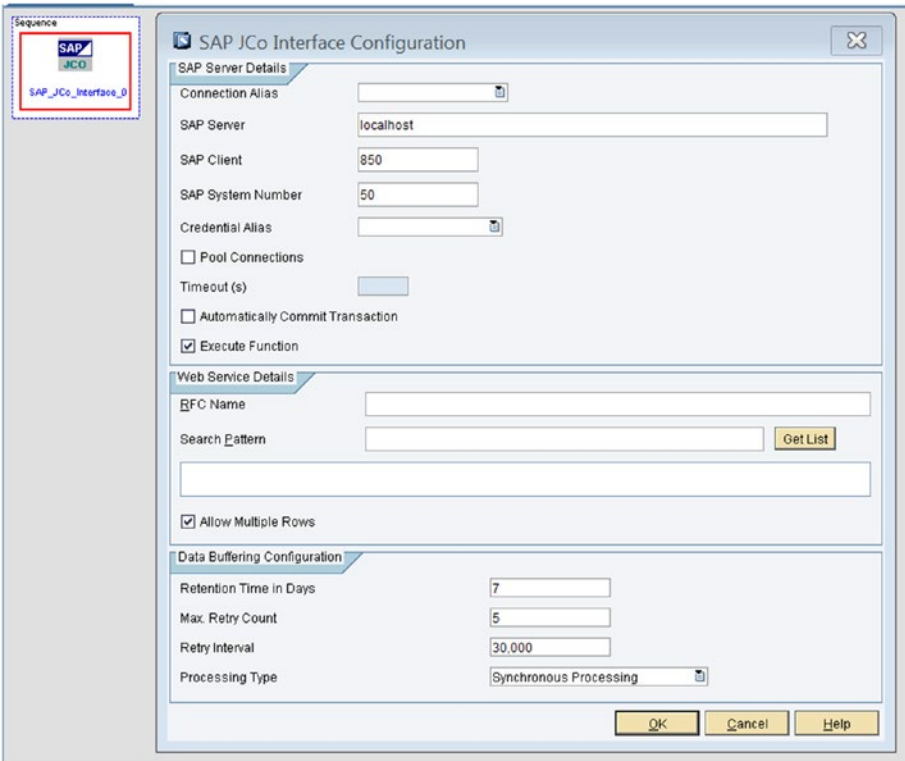

Figure 7-168. JCo interface action block and its configuration
- SAP JCo Interface:** This action creates a connection to the SAP Java Connector (JCo) interface from the ERP server and creates a Remote Function Call (RFC) request. The SAP JCo Interface action is used to send XML messages to and from the ERP system. This does not require session handling. See Figure 7-168.